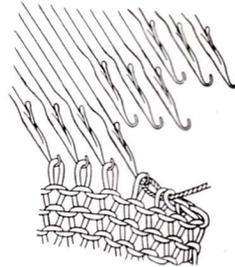

Fig. 63
- d. Repeat these process. (See Fig. 63)